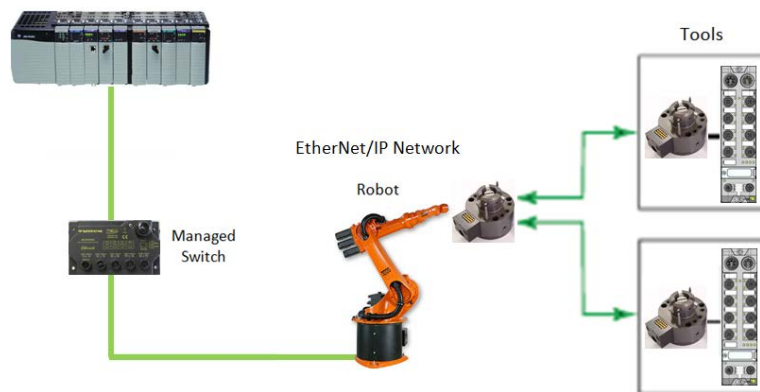

Figure 1: Tool exchange
The Quick Connect (QC) provides high device availability during startup of EtherNet/IP network. Typical application where it is implemented is a frequent robot tool exchange along assembly lines in the automotive industry, Figure 1.